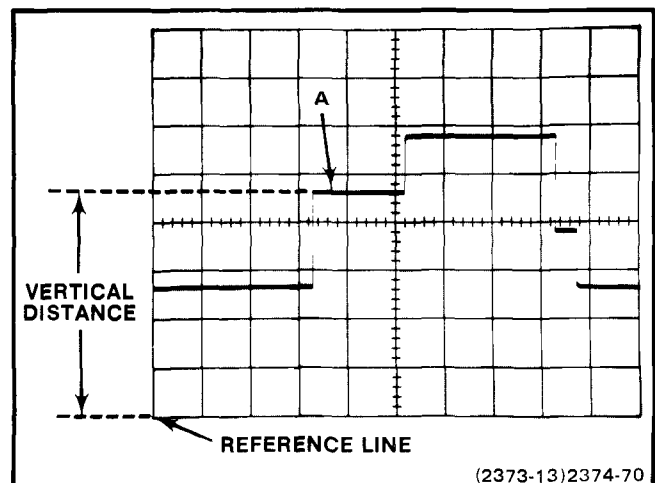

Figure 2-13. Measuring instantaneous dc voltage with respect to a reference voltage.
9. Measure the distance in divisions between the reference line and the point on the waveform at which the dc level is to be measured. For example, in Figure 2-13 the measurement is made between the reference line and point A.
EXAMPLE: Assume that the vertical distance measured is 4.6 divisions (see Figure 2-13), the waveform is above the reference line, and the VOLTS/DIV switch reads 2 (read the appropriate VOLTS/DIV window for the probe or cable being used).